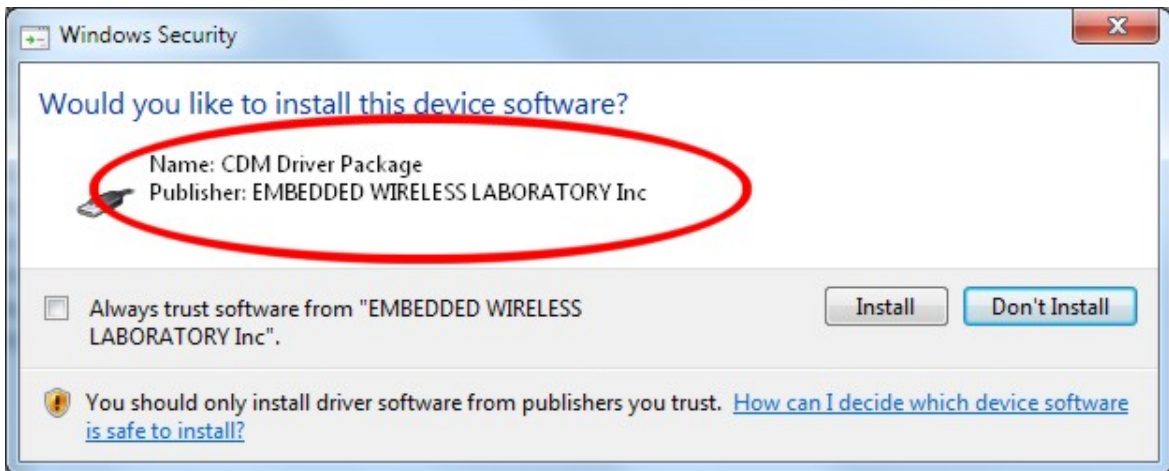

Figure 8. "Windows Security" alert
- In a couple of seconds, the Windows security alert screen will appear. Make sure the drivers are signed by "EMBEDDED WIRELESS LABORATORY Inc." Press the "Install" button (Figure 8)
- In a couple of seconds the Windows security alert screen will appear. Select the "Install this driver software anyway" (Figure 8).